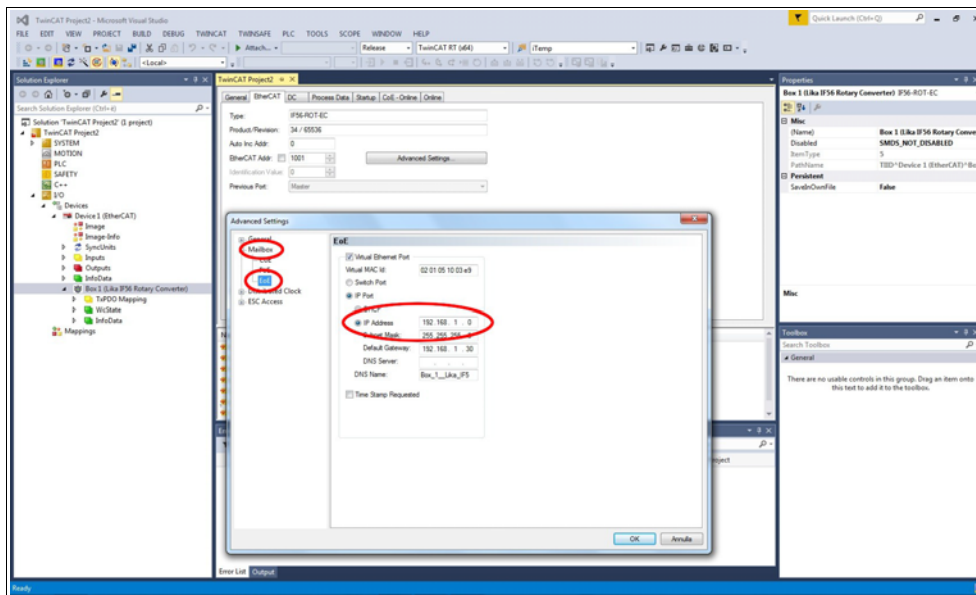

Figure 63 - Advanced Settings page
2. In the **Advanced Settings** page open the **Mailbox** list and then press the **EoE** command: the **EoE** group box will be displayed. Check the assigned IP address next to the **IP Address** item (192.168.1.0 in Figure 63).